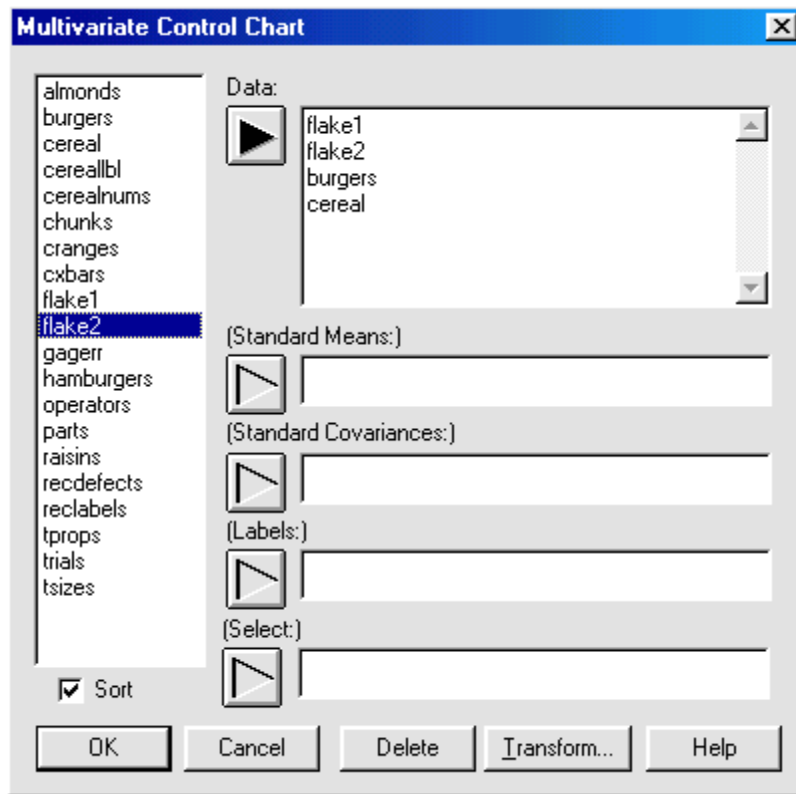

Figure 6-1. Multivariate Control Chart Analysis Dialog Box
1. Choose SPECIAL... QUALITY CONTROL... MULTIVARIATE CONTROL CHARTS... from the Menu bar to display the Multivariate Control Chart Analysis dialog box shown in Figure 6-1.